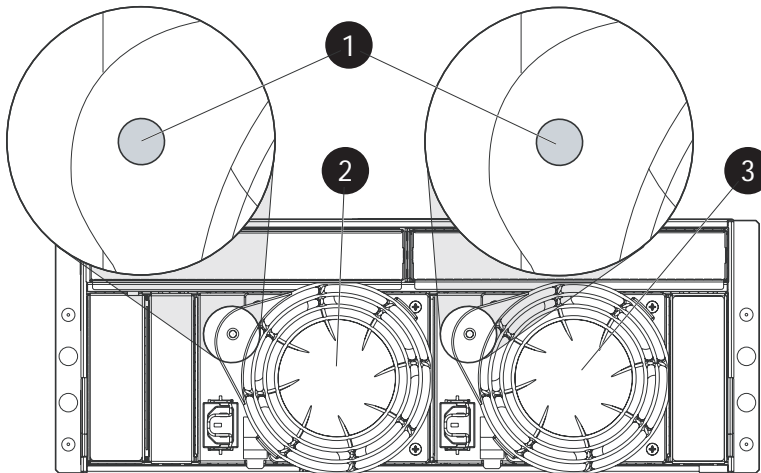

Figure 50 Power supply/blower status indicator
- Check the power supply/blower status indicator. See Figure 50. It should be off.